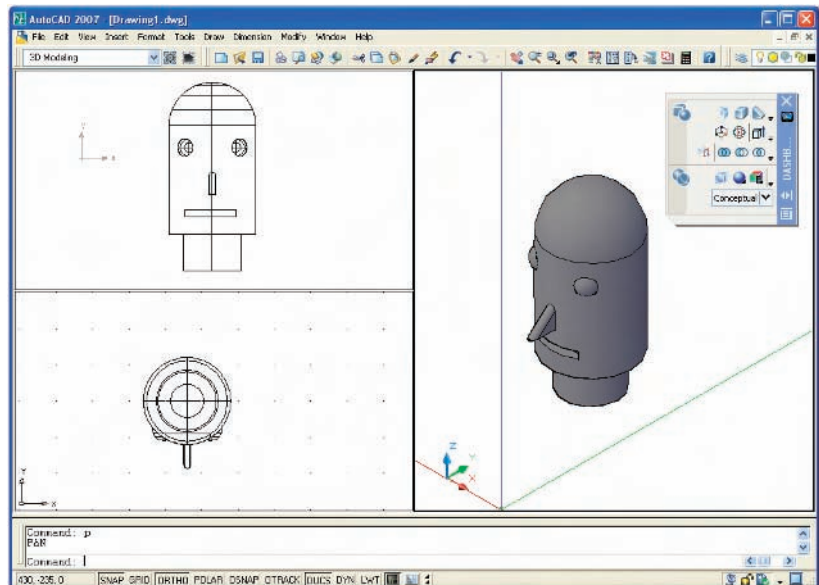

Fig. 14.12 Exercise 1
- Using the **Cylinder**, **Box**, **Sphere**, **Wedge** and **Fillet** tools together with the **Union** and **Subtract** tools and working to any sizes thought suitable, construct the 'head' in the **Three: Right** viewport as shown in Fig. 14.12.